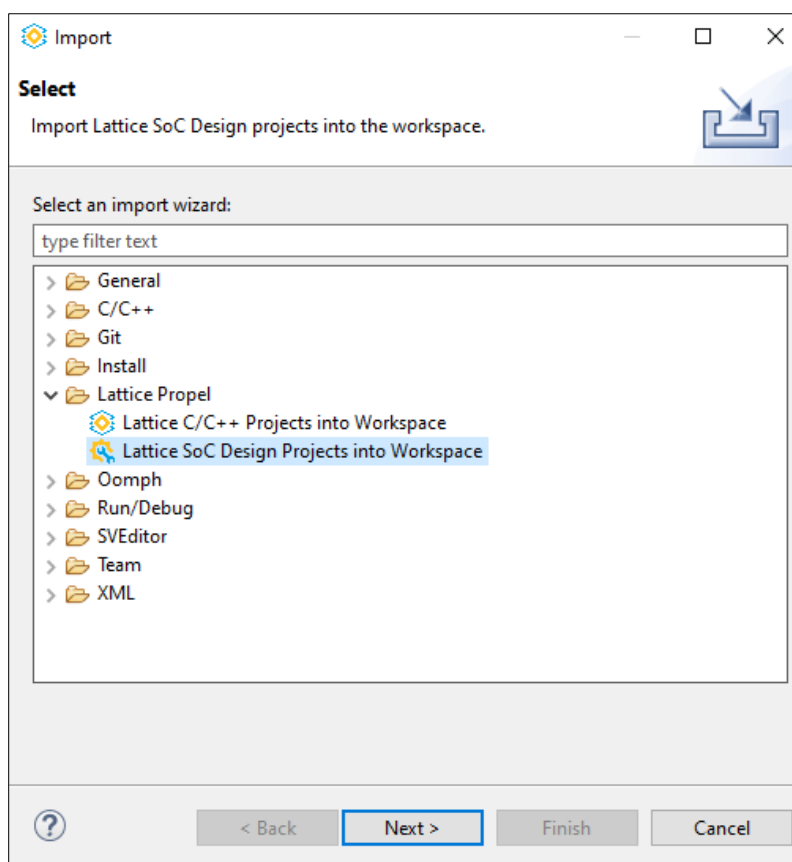

Figure 5.4. Import SoC Design Projects into the Workspace
4. In the **Import** window, select **Lattice Propel > Lattice SoC Design Projects into Workspace**. Click **Next** (Figure 5.4).